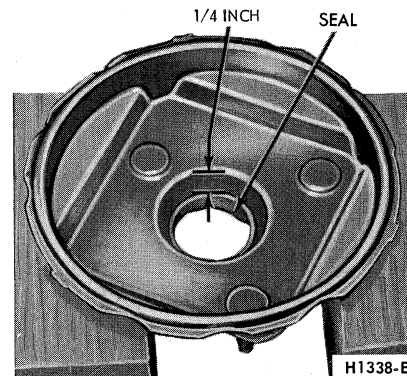

FIG. 20—Installing Rear Shell Seal
1. Place the rear shell on two wood blocks as shown in Fig. 20. Press a new seal, plastic side first, into the recess on the inside of the shell to a depth of 1/4 inch.